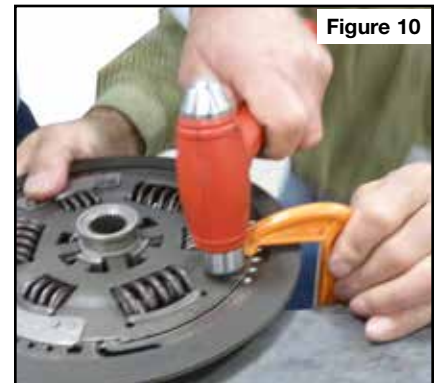

Figure 10
- c. Clamp the entire assembly together to make sure there are no gaps. Once secure,peen down the 8 rivets (4 from each of the 2 plates removed), (Figure 10).